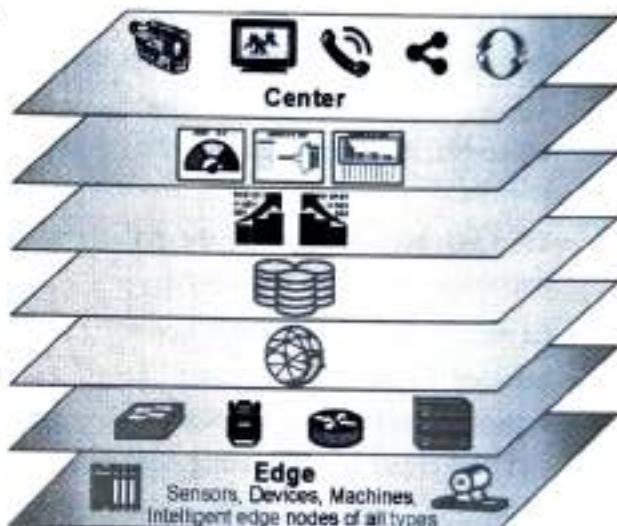

Fig. 2.3.2 : IoT Reference Model Published by the IoT World Forum
- In 2014 the IoTWF architectural committee (led by Cisco, IBM, Rockwell Automation, and others) published a seven-layer IoT architectural reference model shown in Fig.2.3.2.
- Each of the seven layers is broken down into specific functions, and security encompasses the entire model. Fig. 2.3.2. shows details the IoT Reference Model published by the IoTWF.
- As shown in Fig. 2.3.2, the IoT Reference Model defines a set of levels with control flowing from the center (this could be either a cloud service or a dedicated data center), to the edge, which includes sensors, devices, machines, and other types of intelligent end nodes.